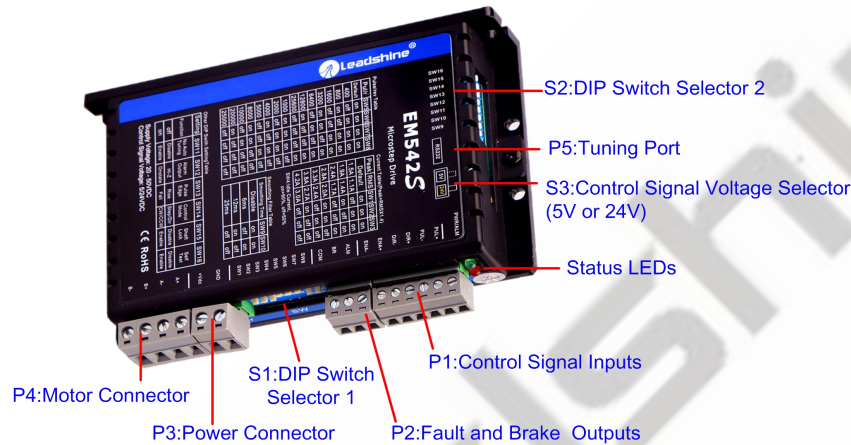

Figure 2 Connectors, DIP switches, and LED locations
PUL+ (CW+)	Pulse and Direction Connection: (1) Optically isolated, high level 4.5-5V or 24V, low voltage 0-0.5V (2) Maximum 200 KHz input frequency, 500KHz customized model is available (3) The width of PUL signal is at least 2.5μs, duty cycle is recommended 50% (4) Single pulse (step & direction) or double pulse (CW/CCW) is set by DIP Switch SW14 (5) DIR signal requires advance PUL signal minimum 5 μs in single pulse mode (6) The activated edge of PUL and DIR is set by DIP Switch SW13 (7) The factory setting of control signal voltage is 24V, must need to set S3 (figure 2) if it is 5V
The EM542S can accept differential or single-ended control signals (pulse, direction, and enable) in open-collector or PNP connection through the P1 connector (figure 2). It is recommend to add an EMI line filter between the power supply and the drive to increase noise immunity for the drive in interference environments.
The first 8-bit is located on the side (DIP switch selector 1 in Figure 2) and used to configure settings of micro step resolution, output current, and motor standstill current as shown below, the factory setting of SW1-SW8 is **ON, ON, ON, OFF, OFF, OFF, ON, ON**.
The second 8-bit DIP switch is located on the top (DIP switch selector 2 in figure 2), and used to configure settings of control command filtering time, motor auto-configuration, fault output impedance, pulse active edge, control mode, lock shaft, and self-test as shown below, the factory setting of SW1-SW8 is **OFF, OFF, OFF, OFF, OFF, OFF, OFF, OFF**.
The Third 1-bit selector is located on the top (DIP switch selector 3 in figure 2), used to configure the voltage of control signals. For the safety of optically coupled, the factory setting is 24V, which no need to connect 2K resistors like the old drives, making it easier to use. When the voltage of the control signal is 5V, the S3 must be set to 5V, otherwise, the motor won't work.